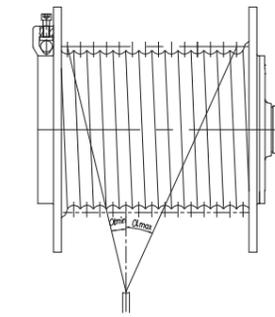

图4 Figure 4
4.3 为了保证钢丝绳正常缠绕,要求绳偏折角 $\alpha$ 维持在允许范围之内(图4),应注意以下几点:
4.3 To achieve acceptable rope winding, the deflection angle  $\alpha$  must be kept in the allowable value (figure 4) Attent the following points: